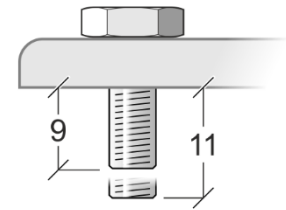

Figure 9. Min./max. bolt protrusion into base (millimeters)
1. See Figure 9. Pass two M10 grade 8.8 steel bolts or screws through two half-coupler type rigging clamps and check that the bolts will protrude minimum 9 mm / 0.35 in. and maximum 11 mm / 0.43 in. into the base of the fixture when tightened.